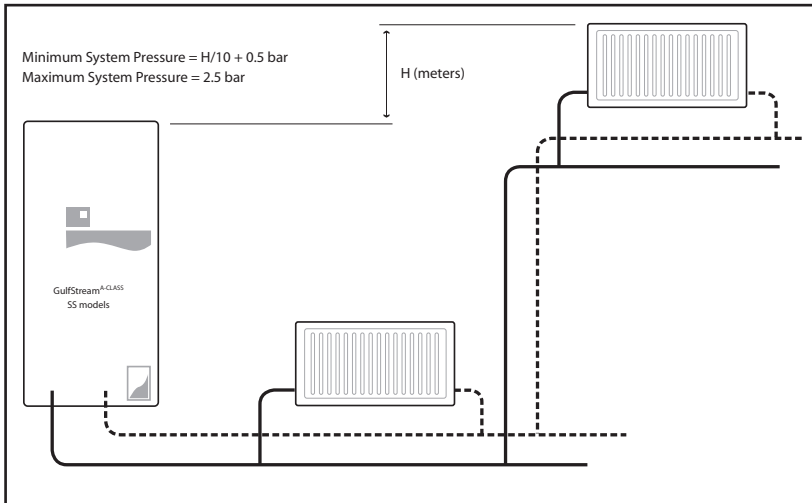
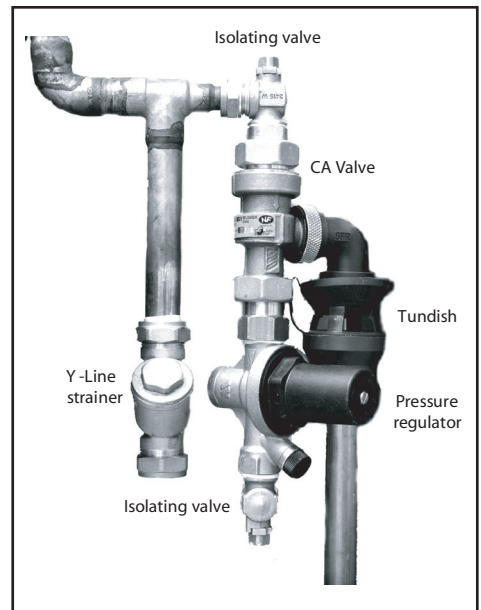
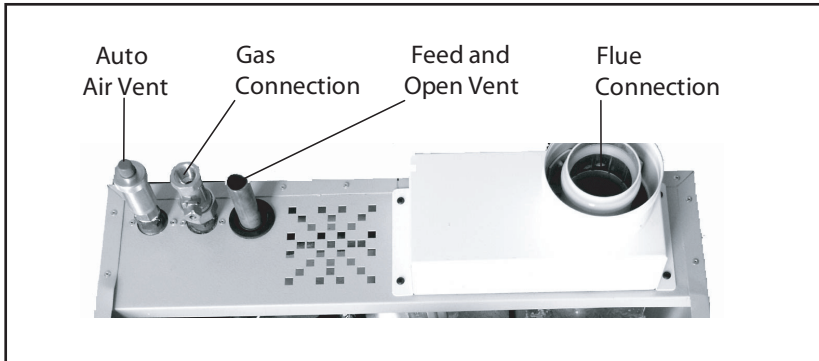

Figure 3.2 Schematic diagram of the sealed heating system
Figure 3.3 CA Filling device
Figure 4.1 Connections at the top
(a) **Sealed System SS models:** These are suitable for sealed central heating systems shown schematically in figure 3.2 and are fitted with an automatic arrangement. Minimum of 2 bar mains pressure must always be available for correct operation of the CA device (figure 3.3) These models incorporate the following additional components:-
CA automatic filling device and pressure regulating valve is set to fill the system to 1.0 bar. This is usually sufficient for the heating systems in most domestic properties. However the minimum system pressure should not be less than "0.5 + H/10" bar as shown in figure 3.2. The system filling pressure can be adjusted by the pressure regulator (see figure 3.3)
- (d) The installer must check and confirm the suitability of any other types of push fit connectors. The gas connection, and on the OV model the combined cold feed and open vent connection are located at the top of the appliance. (See figures 3.3, 4.1, 4.2 and 4.3) All other connections are located at the bottom front of the appliance (figure 4.1).